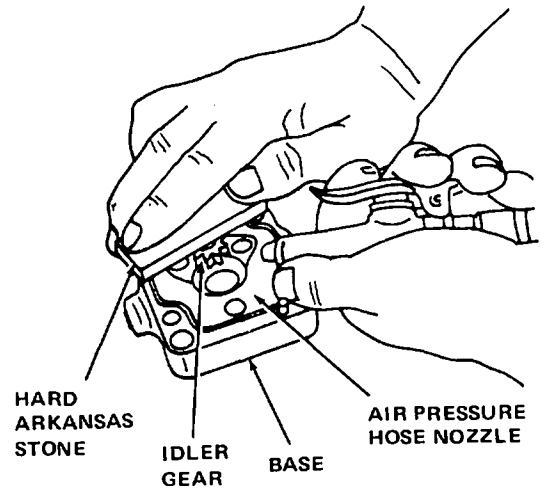

Figure 11-11. Honing Governor Idler Gear
(5) Place idler gear (75) on its stud and press a hard Arkansas stone on top of gear as shown in figure 11-11. Spin the gear using air pressure: this prevents the gear from binding between the case and the base.